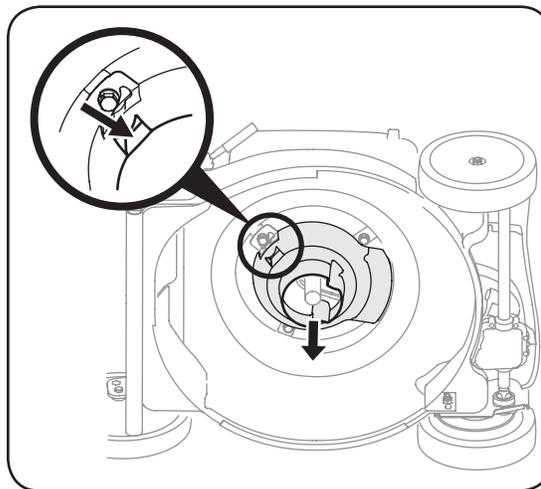

Figure 5-4
4. Press inward on tab on the engine baffle to release it from the baffle bracket. See Figure 5-4.